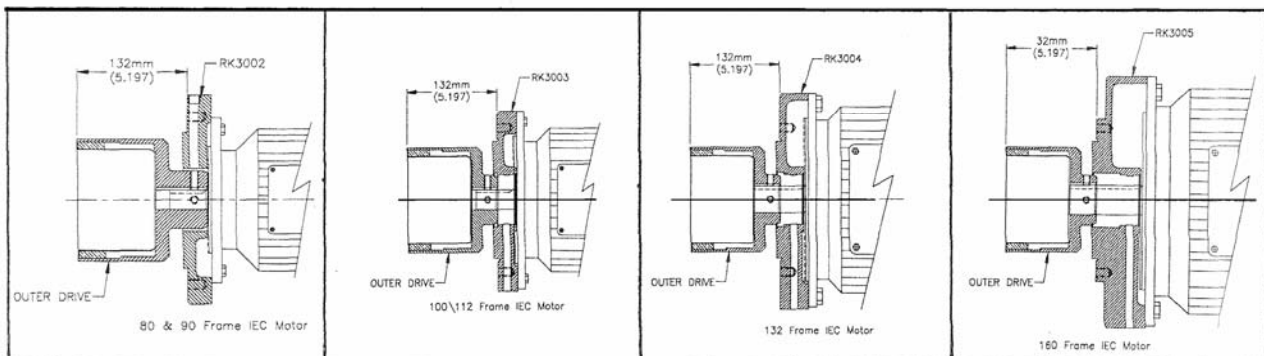

Fig. 10-1: IEC Outer Drive Mounting Positions (Reference)
2. Place the motor mounting plate on the motor flange. The motor mounting plate for 80 and 90 frame motors has the rectangular boss facing upwards. For the 100/112, 132 and 160 frame motors have the rectangular boss facing downwards. Bolt the motor mounting plate to the motor flange with the appropriate four bolts. See figure 10-1.
4. Back out both of the set screws on the outer drive hub so they do not protrude into the bore. Slide the outer drive onto the motor shaft making sure that the shaft key is in place. Position the outer drive so that the groove in the outer drive lines up with the end of the bracket +1/16", -0" (+1.6mm, -0mm.) Tighten the two set screws to 10 ft-lb (13.6 N-m.) See Figure 9-1. Figure 10-1 shows the outer drive position with respect to the motor mounting plate for reference. Install the 3/8" NPT pipe plug into the hole on top of the adapter plate. This is to keep dirt out of the motor shaft area.